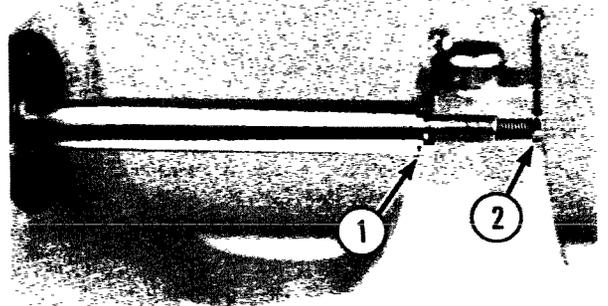

Fig. 2-4
- (1) Place a wrench on the knife shaft (1, Fig. 2-4).
- (2) Place another wrench on the insert (2, Fig. 2-4) and turn clockwise to tighten.
- (3) Install the bowl.
- (4) Install the knife assembly and fluted knob.
- (5) Install the bowl cover.